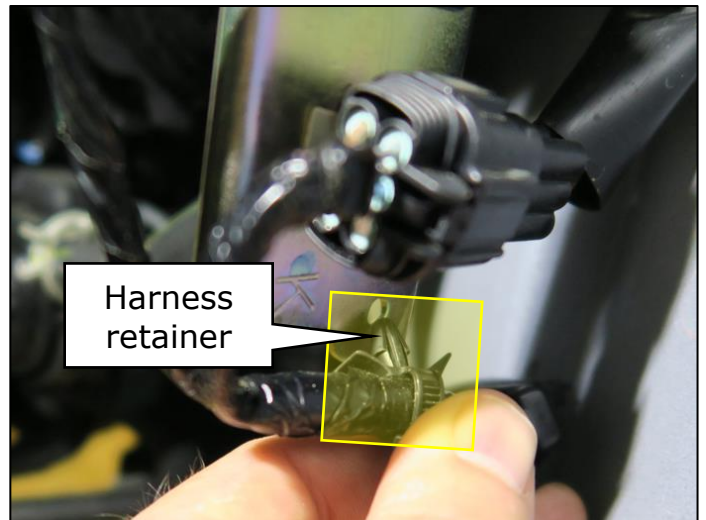

Figure 44
39. Reconnect the harness retainer. (Figure 44)